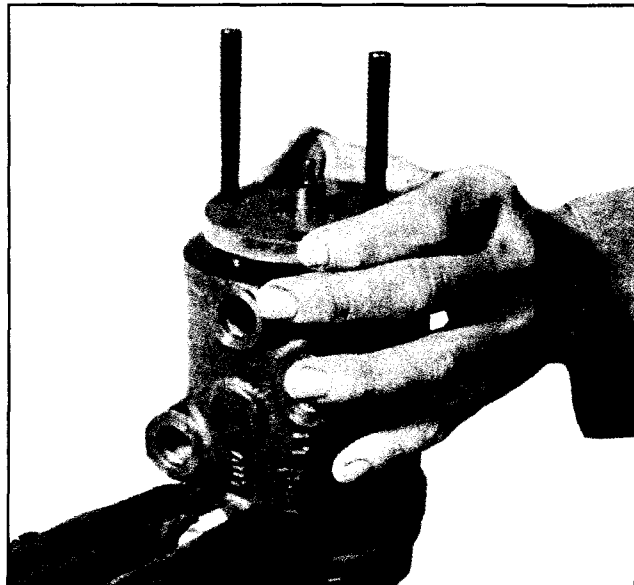

Figure HGA-23
18. Assemble spacer plate (29) over assembly posts and onto housing (25) with plain side up. (See Figure HGA-23).